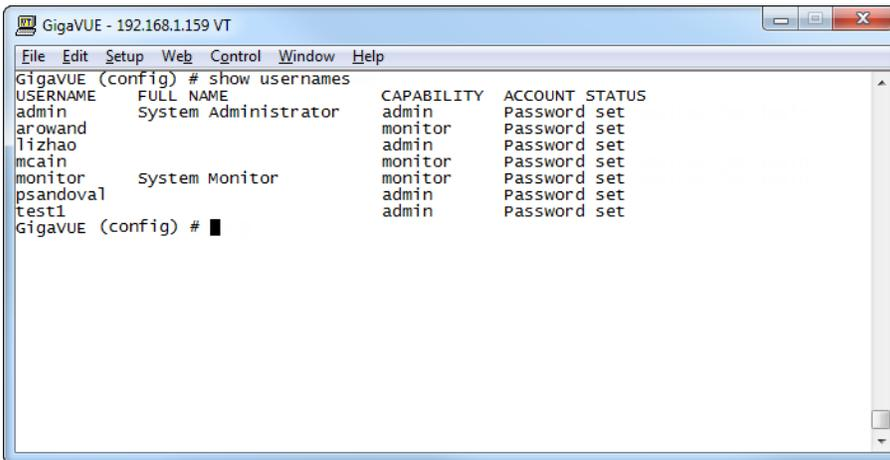

Figure 24: Reviewing the User List
- Once you have configured these basic user accounts, use the **show usernames** command to review your settings. Figure 24: Reviewing the User List shows some sample **show usernames** output after several users have been added.